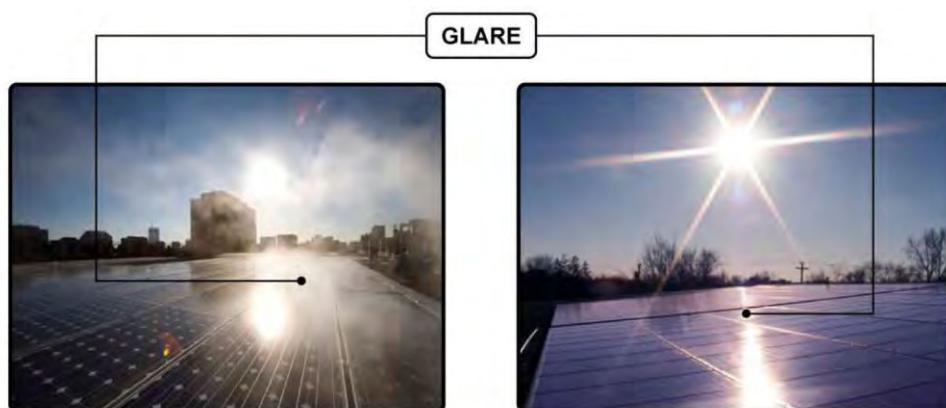

Figure 2
- Glare – A continuous source of brightness, relative to diffused lighting. This is not a direct reflection of the sun, but rather a reflection of the bright sky around the sun. Glare is significantly less intense than glint (Figure 2).